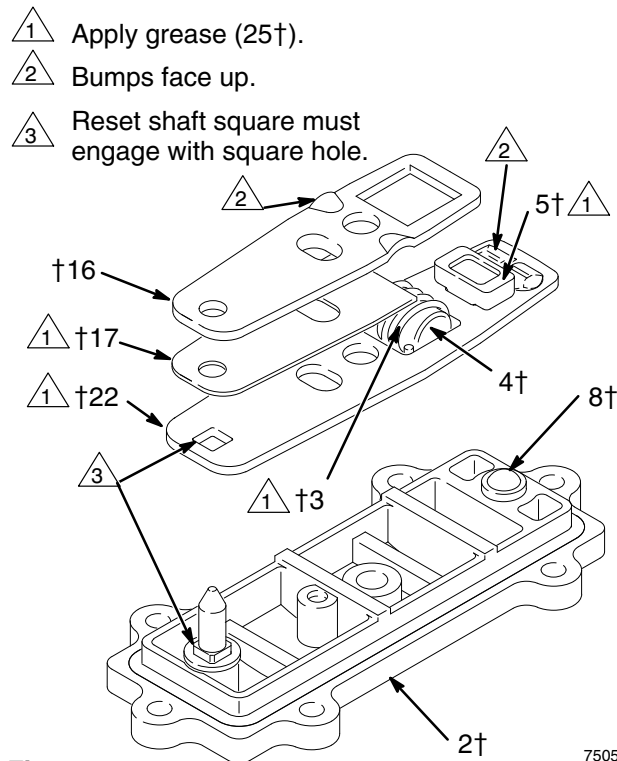

Fig. 14
5. Grease the detent link (22) and link spacer (17). Assemble the detent link, link spacer, and actuator link (16) as shown in Fig. 14. The raised bumps on the links (16 and 22) must face up.
6. Squeeze the spring (3) and install it and the stop (4) in the link assembly. The spring tension will hold all these parts together. Grease the valve cup (5) and install it in the link assembly as shown.
7. Install the link assembly onto the air valve cover (2) so the pointed end of the reset shaft (21) fits through the holes in the links and the square part of the shaft engages the square hole in the detent link (22). Make certain the bumps on the detent link (22) engage the detent ball (8).
4. Grease the spring (3). Place the link stop (4) inside the spring. See Fig. 14.